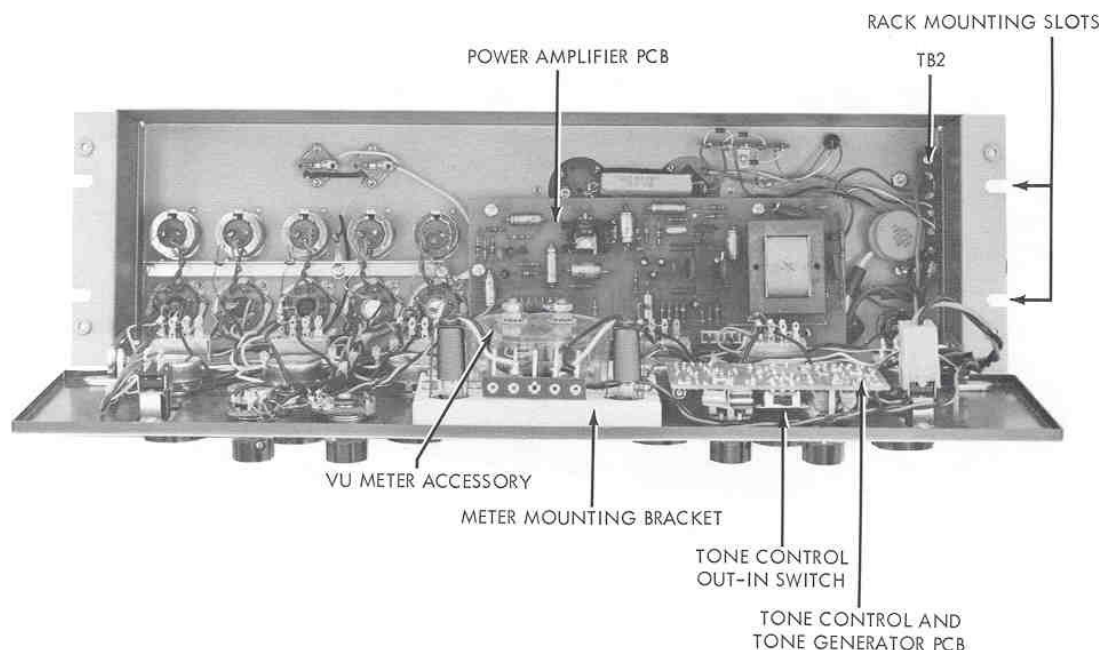

Figure 4. Front View with Hinged Panel Open
- Step 1. Remove four screws securing front panel, open and lower panel (see Figure 4).
- Step 2. Locate terminal board TB2 beneath power transformer T1 (see Figure 4).
TONE CONTROL OUT-IN switch	Disconnects HF and LF tone controls when tone control is inappropriate for application, such as Acousta-Voicing ® . * Located on back of front panel on tone control PCB (see Figure 4).